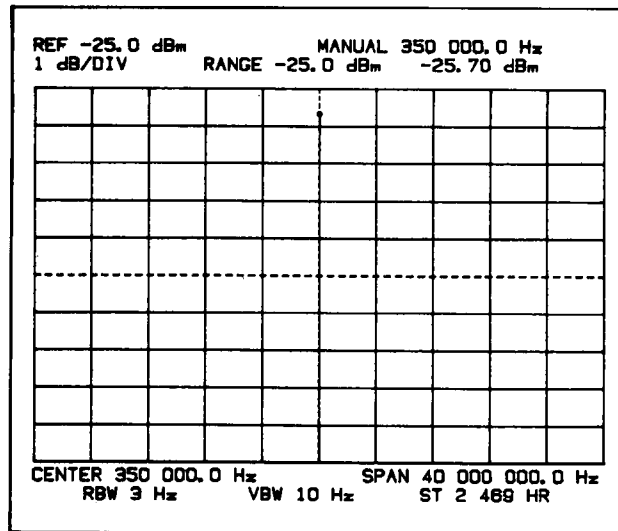

Figure 5-24. IF Adjustment Display #1
- g. Adjust A19C39 for a maximum marker amplitude reading. Adjust the REF LEVEL as necessary to keep the marker within the graticule area. (See Figure 5-24.)